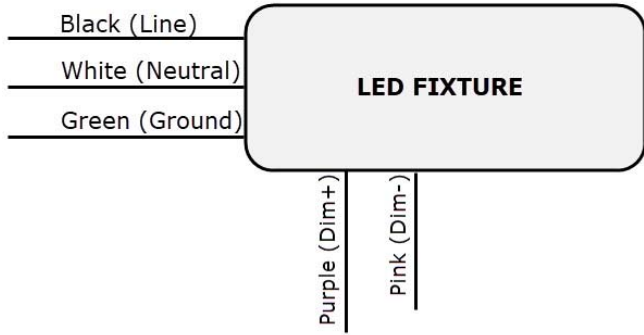

Figure 1
- 4: Remove clips on fixture and loosen screws on underside of fixture to gain access to driver compartment. (Figure 1)